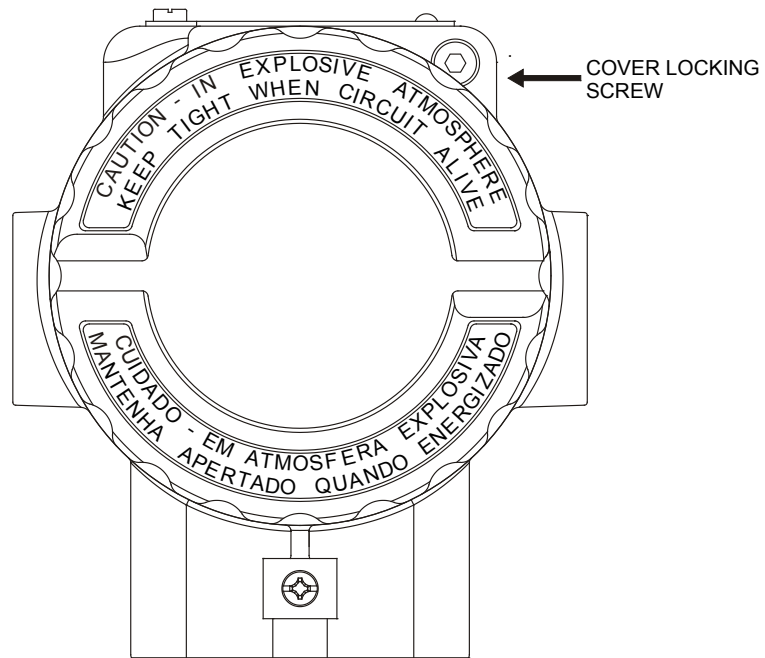

Figure 6.1 – Cover locking screw
2. Remove the cover. It has a **cover locking screw** that needs to be rotated in a clockwise direction to be loosened. By reversing the process, the cover will be locked. See figure 6.1.